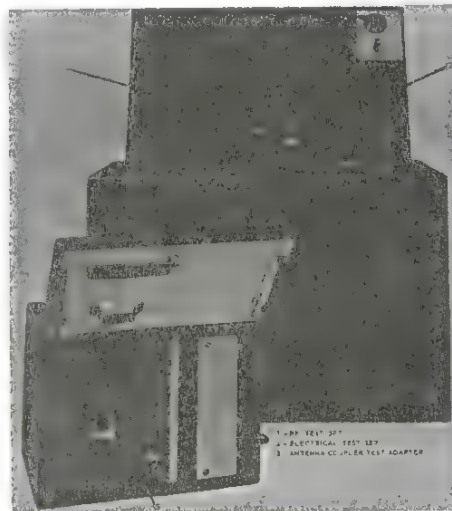

Figure 3-12. Missile test set.
a. Missile test set. The missile test set consists of an RF test set, electrical test set, and antenna coupler test adapter (fig 3-12).
- (1) The RF test set generates RF signals that simulate those transmitted by the MTR. These signals are coupled to the transponder control group to test the response of the missile guidance system.
- (2) The antenna coupler test adapter couples RF energy between the RF test set and the transponder control group. It is connected to antenna horns 2, 3, and 4.